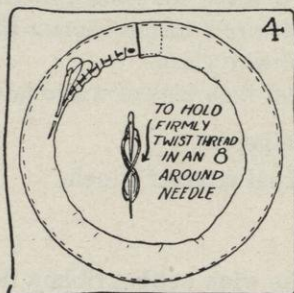

FIG. 4.
- d. With this thread, shirr the selvage on the inner edge of the ribbon, using small stitches (see Figure 4).
- e. Pull up this thread to shirr your ribbon, so that it lies in as flat a circle as possible. Wet your ribbon again if necessary, for the fullness will come out more easily if you shirr it up while it is wet. Do not cut off the thread. Slip the needle into the ribbon and twist the thread around in a figure eight to hold it firm (see Figure 4).